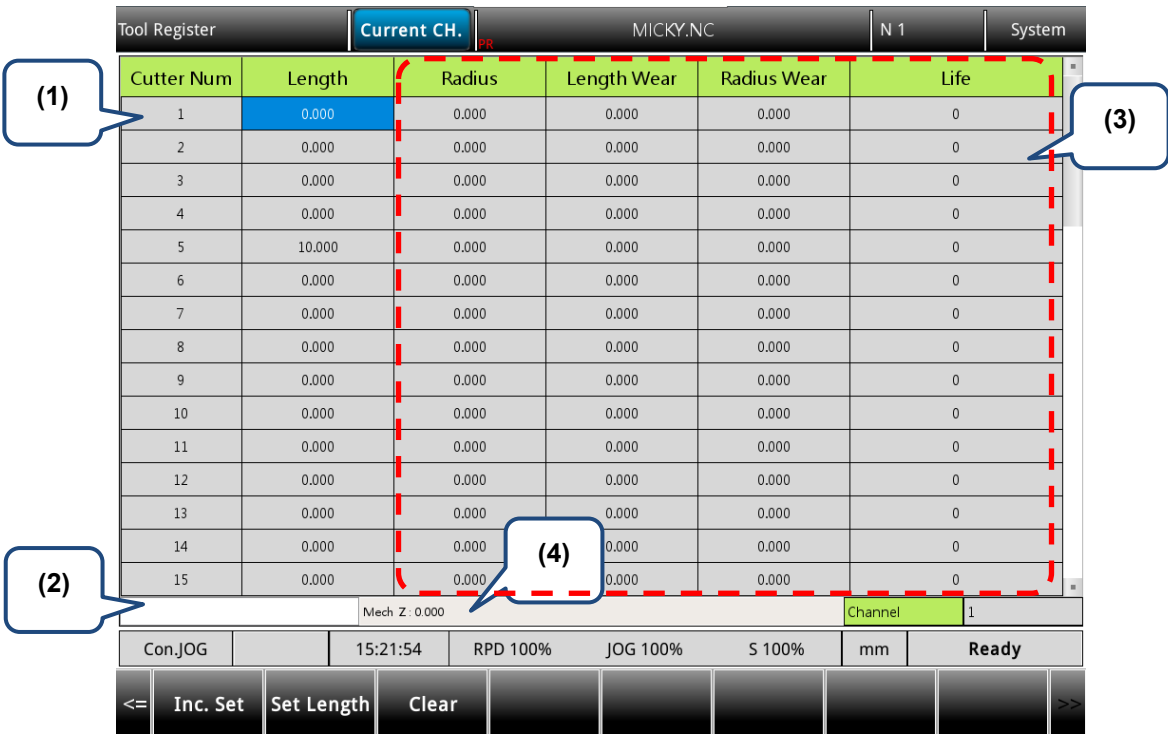

Figure 3.5.2.1.1
- (1) Press **OFS** to enter the OFS screen.
- (2) Press **Tool** to enter the corresponding function screen.
- (3) Use , ,  and  to move the cursor to specific data field of tool length, tool radius, tool wear, or tool life.
- (4) Click and then enter the value in the input field as shown in the Figure 3.5.2.1.1 item (2). To enter positive values, simply press **0** - **9**; to enter negative values, users have to press  before using the numeral keys. After entering the values for the tool compensation data, press  to confirm the unit of the values. If it is the data value for tool life, the set value must be positive integers.
- (5) Press **ENTER** to set the value using absolute data.
- (5) Press **Inc. Set** to increase or decrease the value of that field.